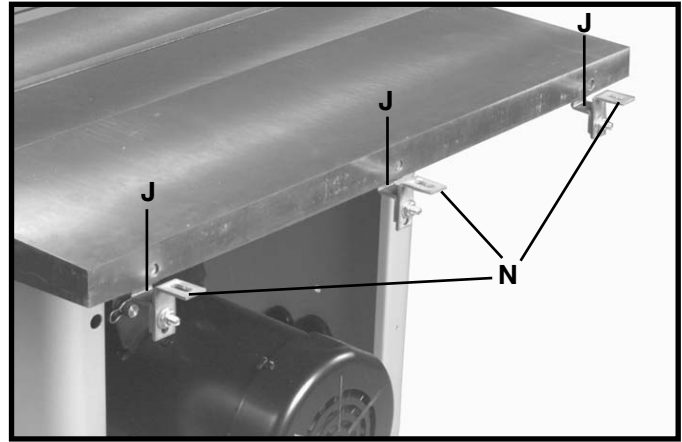

Fig. 67
11. Fig. 67, illustrates angle brackets (N) properly assembled to Z-brackets (J).